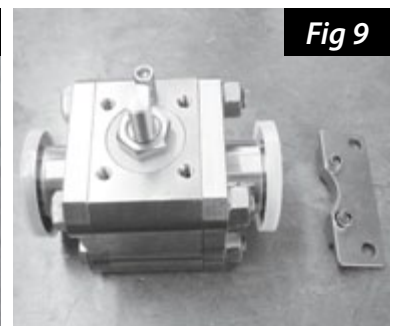

Fig 9
5. Remove the lock plate (Fig 9).